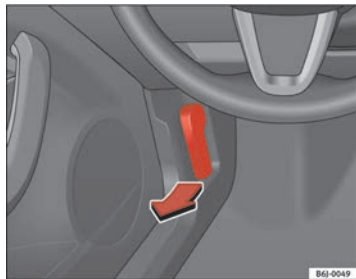

Fig. 124 Bonnet opening lever
- To release the bonnet, pull the lever under the dash panel ⇒ page 190, fig. 124 in the direction indicated (arrow). The bonnet will be released by a spring action ⇒ ⚠.